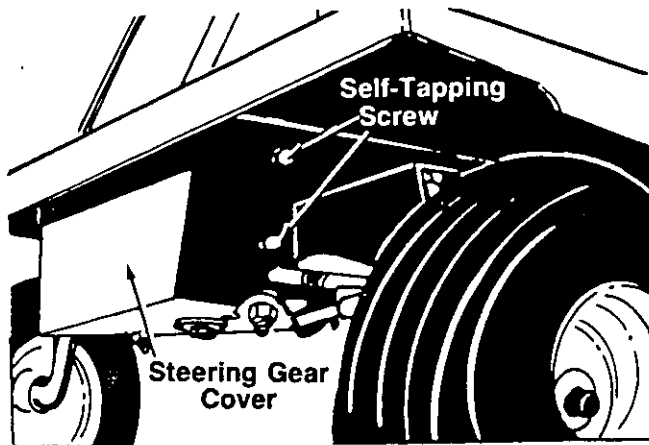

FIGURE 4.
9. Install the steering gear cover (D) as shown in figure 4, to cover the underside of the steering mechanism. Secure with two self-tapping screws on each side of the cover. Do not completely tighten any of these screws until all four of them are positioned correctly.